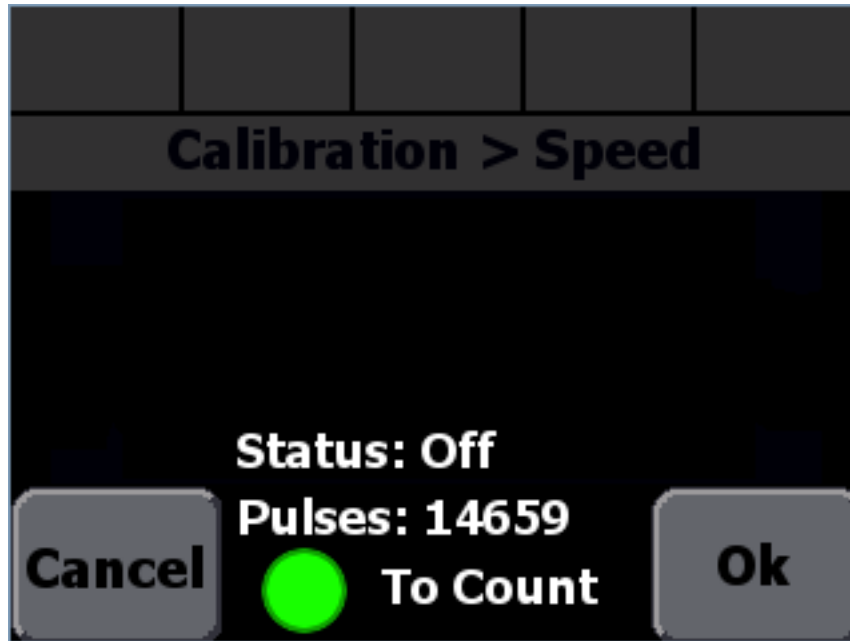

Figure 3: Cal By Distance Screen after Counting Pulses
STEP 7: Press the green Standby knob to stop counting axle pulses. The status should change to "Off", as shown in Figure 3.